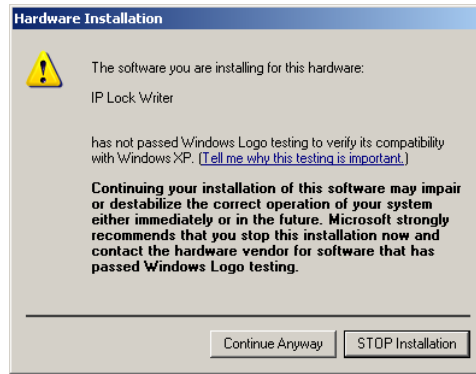

Figure 7-3 Warning dialog
3. In warning dialog (Figure 7-3), click at “Continue Anyway”.